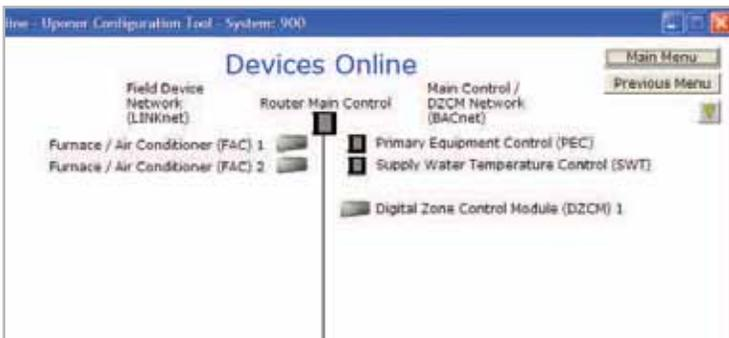

Figure 4.4-3: Devices Online Screen
2. Click the **Devices Online** button to display the Devices Online screen shown in **Figure 4.4-3**.